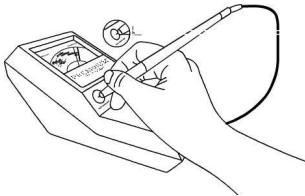

Fig. 1.5
- Press the probe tip onto the diamond test disc located on the right of the indicator lamp (**Fig. 1.5**). Apply sufficient pressure to retract the protruding tip completely into the probe pen. Once this has been completed, the needle should rise and reach its highest point well within the green band of the meter display, within two to three seconds.